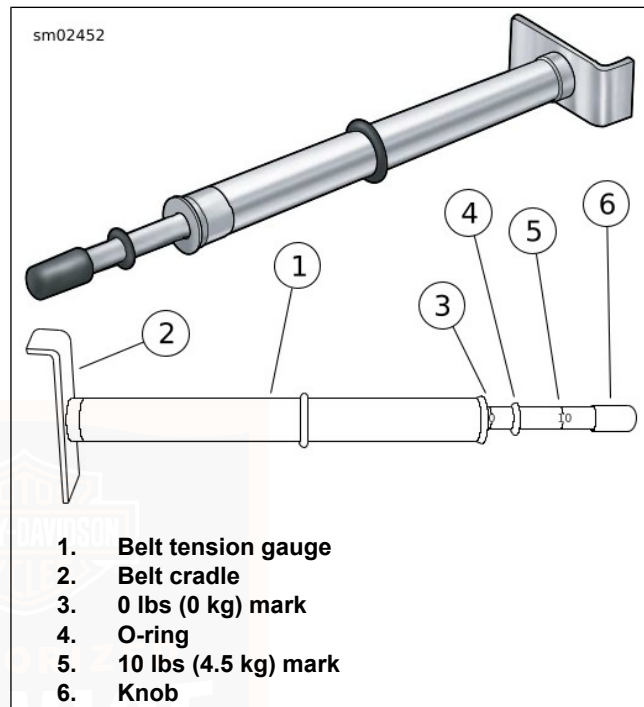

Figure 49. Belt Tension Gauge
2. See Figure 49. Obtain BELT TENSION GAUGE (PART NUMBER: HD-35381-A).